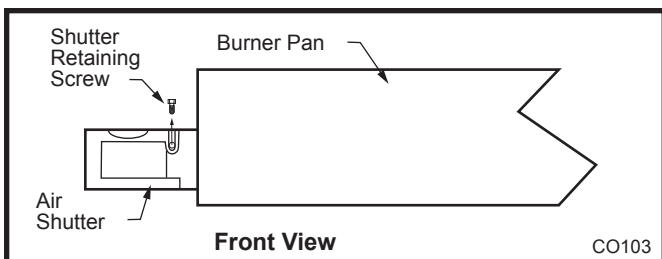

Fig. 76 Remove air shutter from burner pan.
5. Remove air shutters from burner pan by removing shutter retaining screw then air shutter. (Fig. 76)